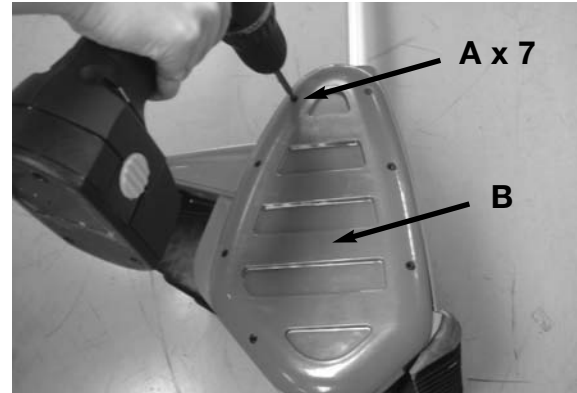

Fig. 7
1. Remove the 7 screws (A) from the belt case cover (B) using a #T20 torx bit or flat blade screwdriver. (Fig. 7)